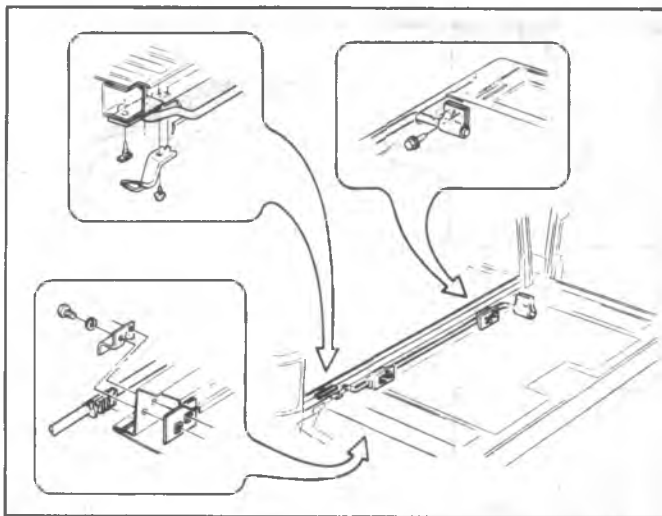

Fig. 2D-58--Torque Rod(Suburban)
1. Remove bolts from each of the hinge assemblies on the underside of the body. See figure 2D-57.
1. Remove access cover shown in figure 2D-59, to gain access to interior components.